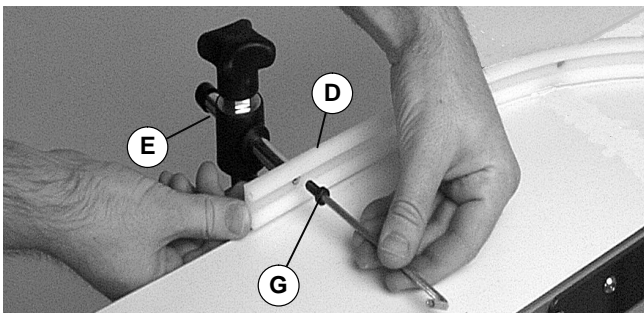

Figure 5
5. Attach outside turn guide (D of Figure 5) to shaft of each guide mount (E) with screw (G). Tighten screws to 30 in-lb (3 Nm).